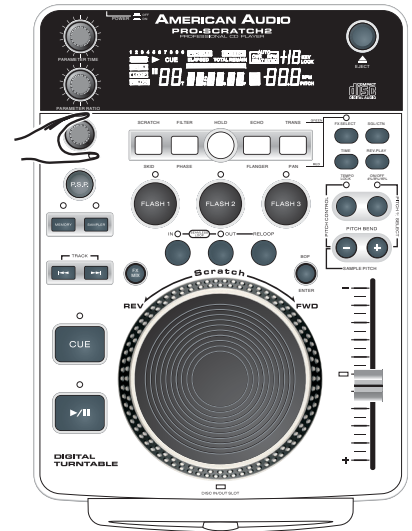

Figure 14
**REPLAY LOOP** - The *RELOOP* (31) function allows you to return to your stored loop at any time. The *IN BUTTON* (14) and *OUT BUTTON* (32) LEDs will indicate a loop is stored in memory, and may be played at any time. To replay the loop, press the *RELOOP BUTTON* (31). The *IN BUTTON* (14) and *OUT BUTTON* (32) LEDs will again begin to flash indicating SEAMLESS LOOP mode has been activated (Figure 14) and your stored loop will immediately begin to play.